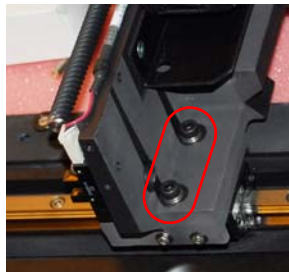
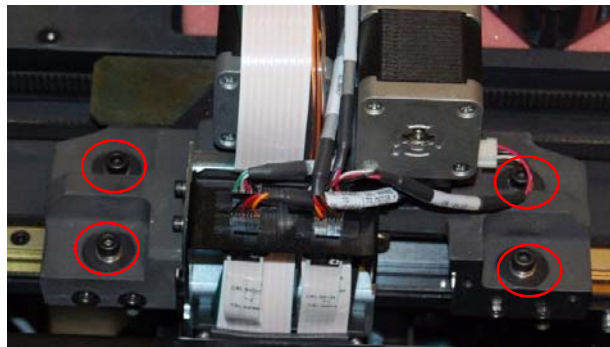

Figure 73 Front Y-axis Screws
Figure 74 Back Y-axis Screws
- Remove Y-axis Screws** 29. Use a M4 Allen key to remove the 6 screws holding the Y-axis carriage to the X-axis rails (see Figure 73 and Figure 74).